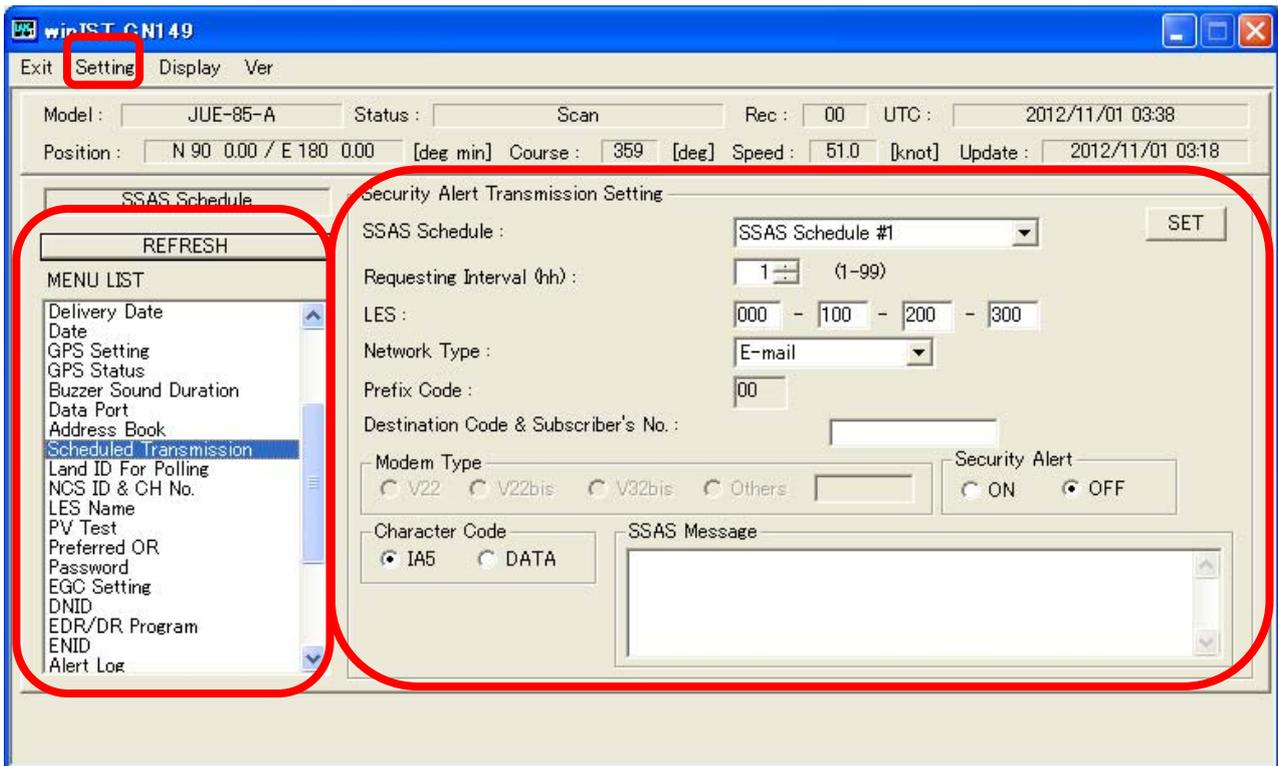

Fig. 4-18-1c SSAS Schedule screen
2. Operation except [Exit], [Display], and/or [Ver] is not possible while winIST is communicating with INMARSAT terminal(the function in the frame of **Fig. 4-18-1c SSAS Schedule screen** cannot be operated.)